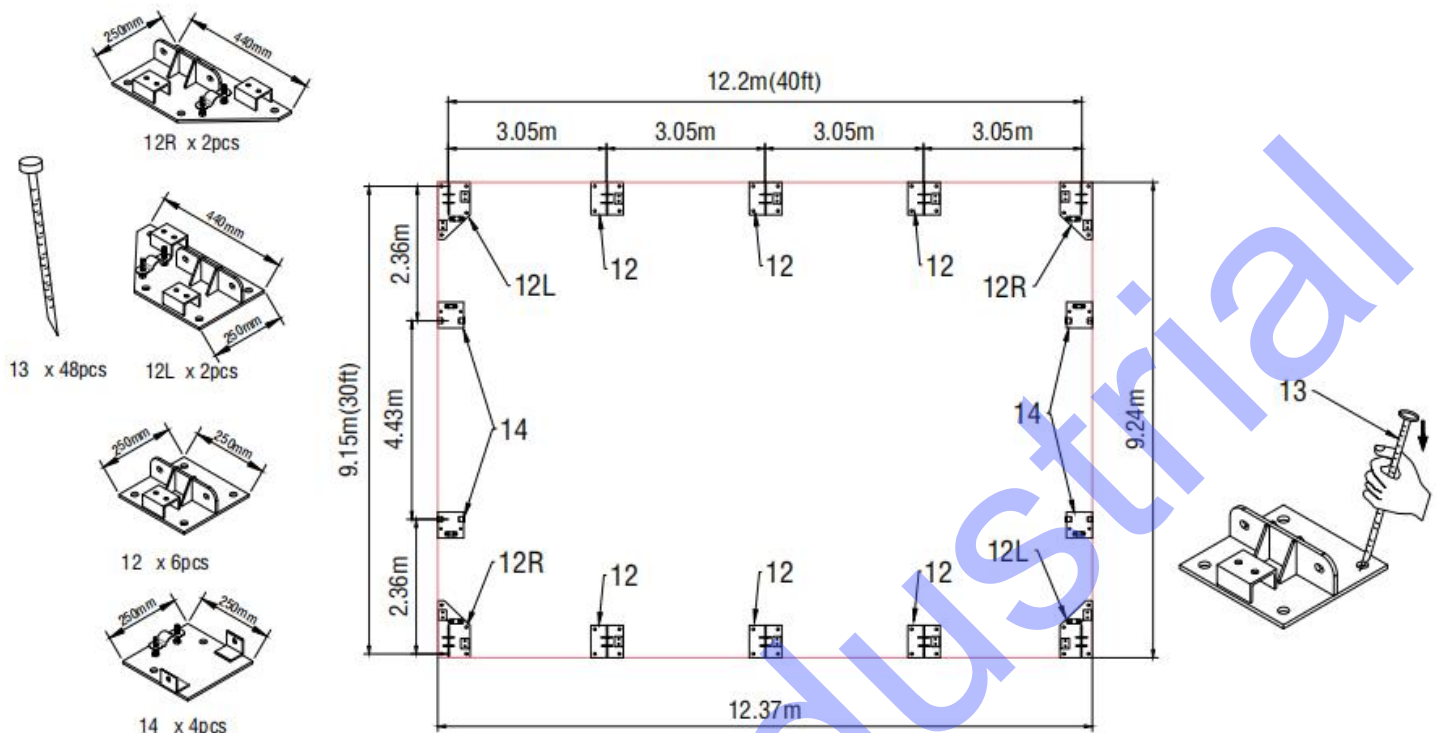

Figure 1
2. Please refer to the diagram (Figure 1) to place the base plates.
3. As Figure 1 shows each Base plate is equipped with 4 pieces of Stake pegs.(No.13) or Expand